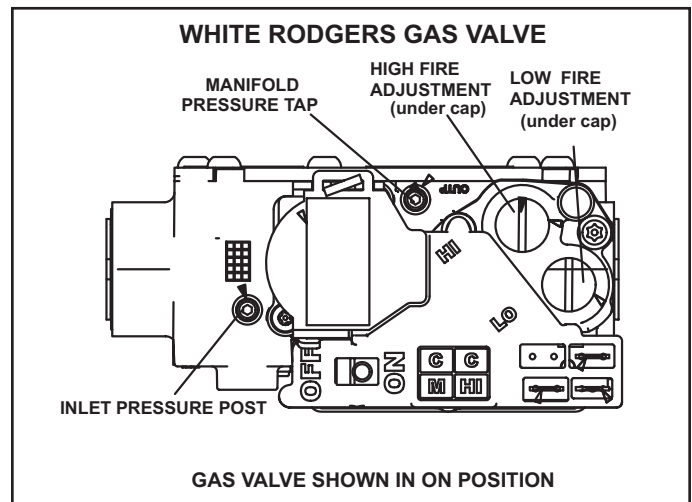

FIGURE 28
Gas Valve Operation (FIGURE 28)
- 6 - Move switch on gas valve to OFF. Do not force. See FIGURE 28.
- 8 - Move switch on gas valve to ON. Do not force. See FIGURE 28.
- 4 - Move switch on gas valve to OF. Do not force. See FIGURE 28.
An inlet post located on the gas valve provides access to the supply pressure. See FIGURE 28. Back out the 3/32 hex screw one turn, connect a piece of 5/16 tubing and connect to a manometer to measure supply pressure. See TABLE 28 for supply line pressure.
A manifold pressure tap located on the gas valve provides access to the manifold pressure. See FIGURE 28. Back out the 3/32 hex screw one turn, connect a piece of 5/16 tubing and connect to a manometer to measure manifold pressure.
- 4 - If necessary, make adjustments. FIGURE 28 shows location of high fire and low fire adjustment screws.